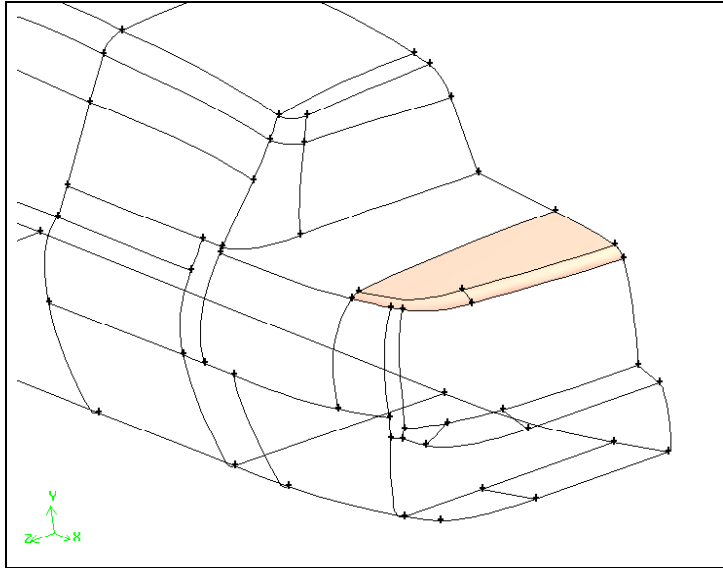
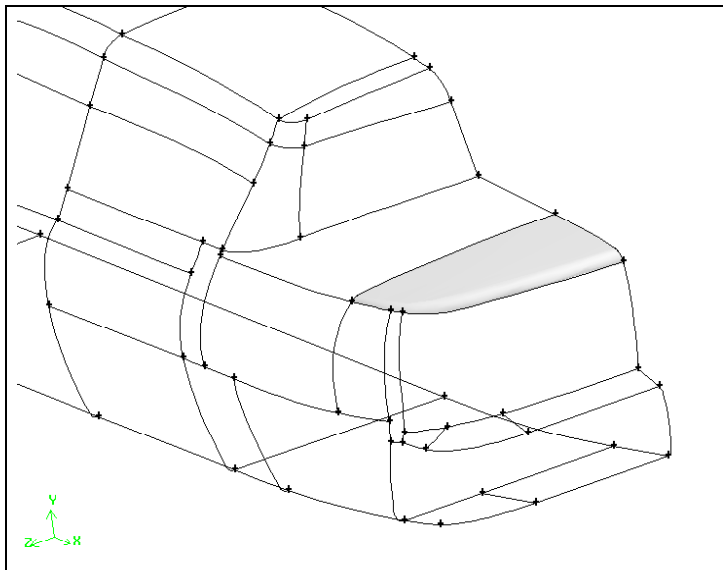

Figure 6-9: Three faces near rear end of trunk
Figure 6-10: Three faces merged near rear end of trunk
3. Merge three faces near the rear end of the trunk of the car (see Figure 6-9) using the method outlined above. The merged faces are shown in Figure 6-10.